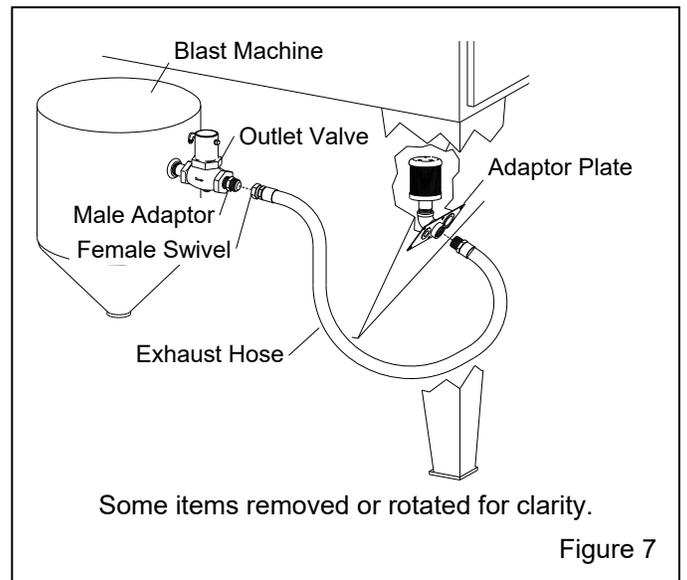

Figure 7
2.7 Attach Blast-Machine Exhaust Hose –Figure 7